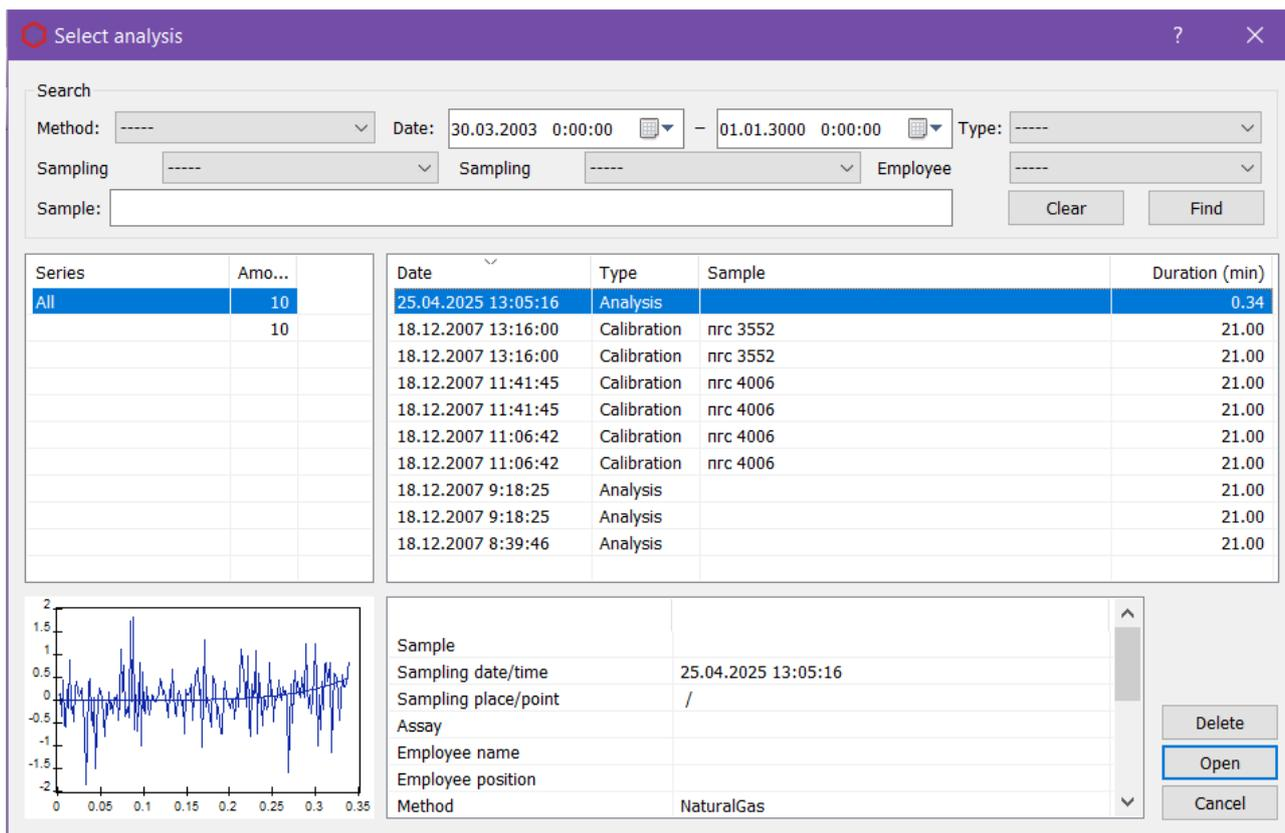

Fig. 40: Select Analysis
1. On the control panel, click  **Open**. This function is also available in the *Chromatogram* menu. The *Select Analysis* window opens (Fig. 40).